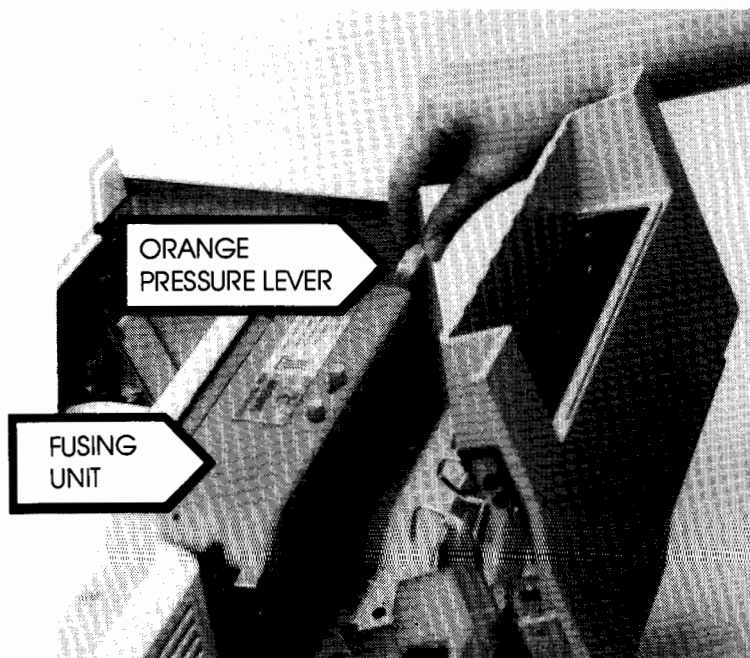

Figure 5-5. Releasing Fusing Unit Pressure
- d. Release pressure in the fusing unit by moving the orange pressure lever on the fusing unit in the direction of the arrow (figure 5-5).